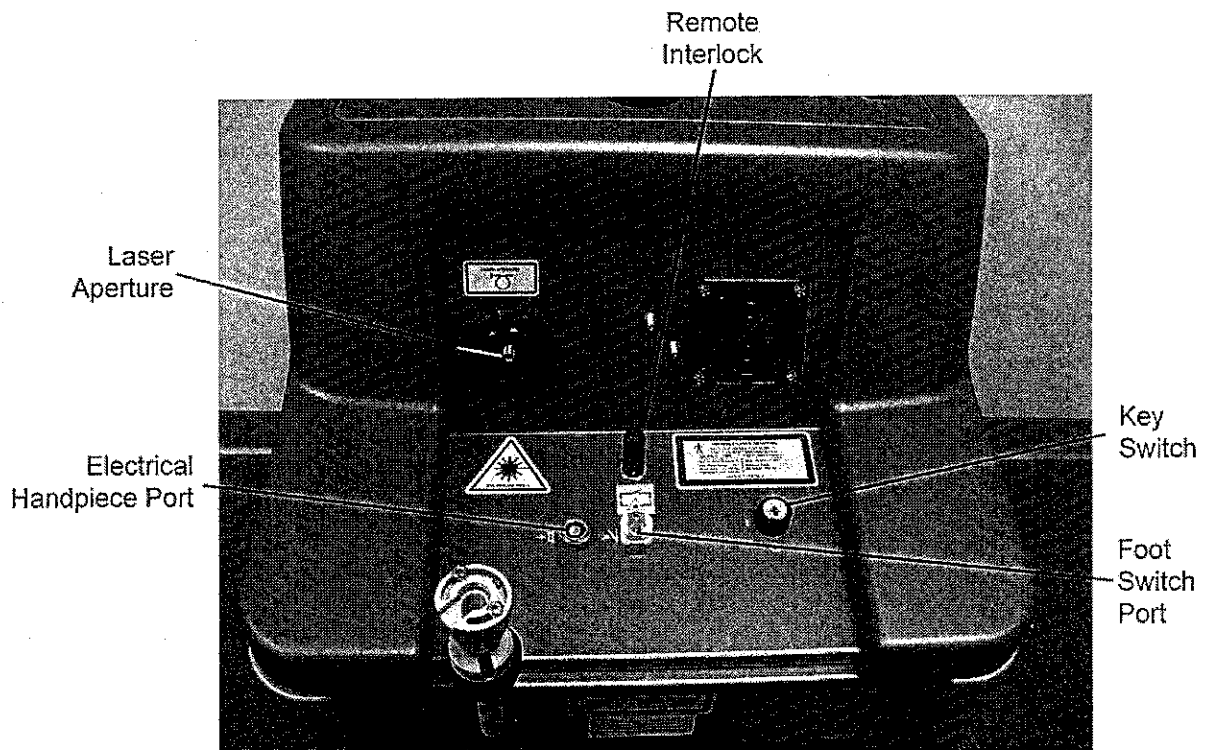

Figure 2C—Main Components, Rear View, Top
- ◆ The Foot Switch, a pneumatic switch that reduces the chance of electrical hazard in a wet environment. To connect the foot switch, insert the foot switch into the footswitch port on the rear of the laser. See **Figure 2C**.